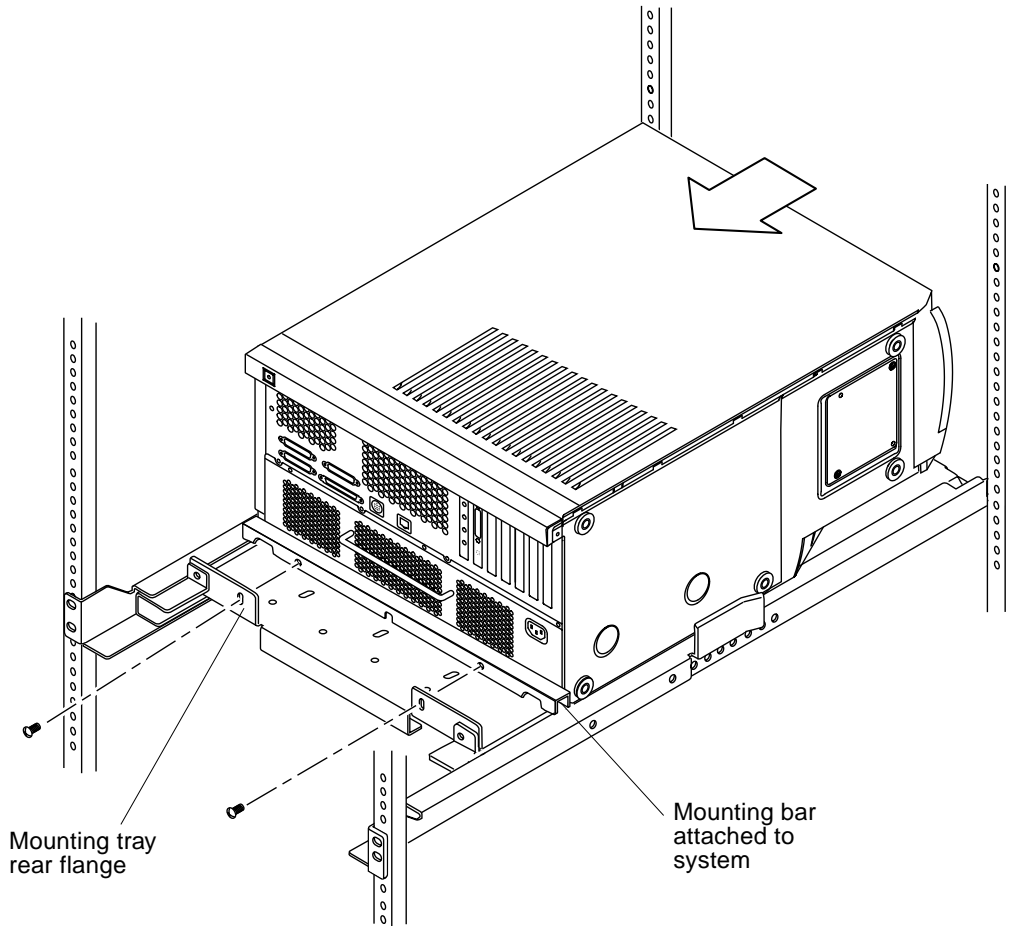

FIGURE 21 Fastening the Ultra 80 System to the Mounting Tray
4. Using two of the provided screws, fasten the rear of the mounting tray to the mounting bar (FIGURE 21).